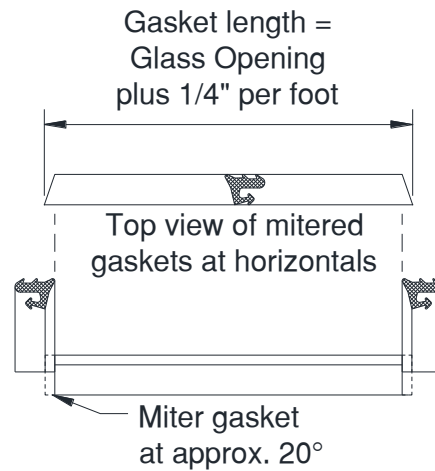

Figure 28: Gasket Cut Guide
- 12.3.3 Miter the horizontal gaskets per *Figure 28*.